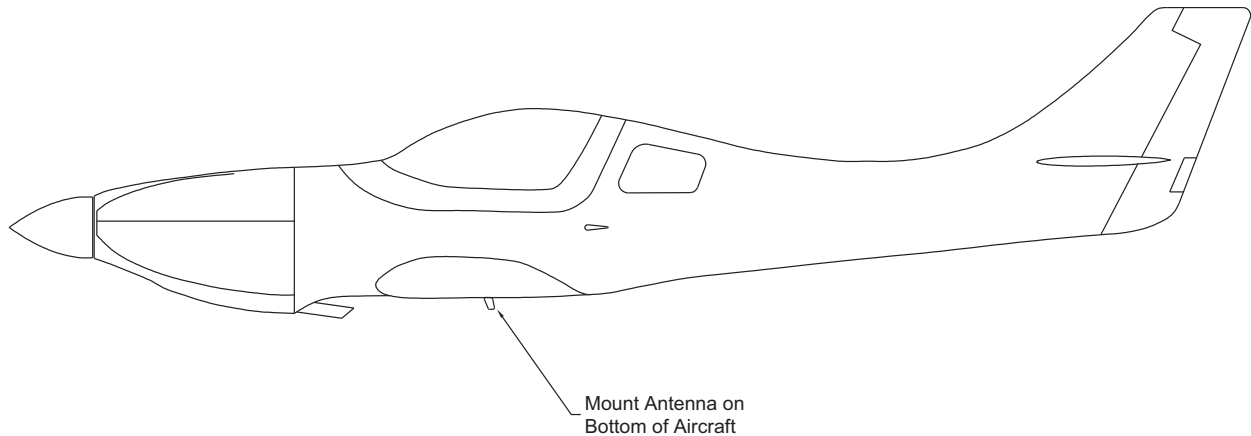

Figure 2-1 Antenna Installation Considerations
- b. The antenna should be mounted vertically on the bottom of the aircraft (Figure 2-1).